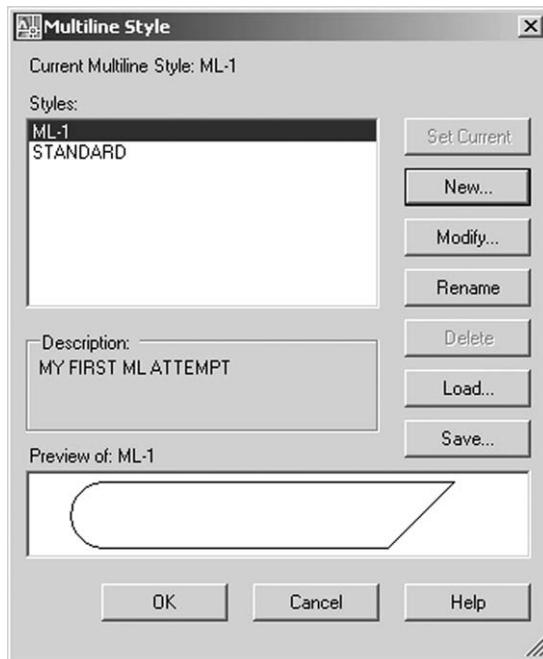

Figure 27.2 The Multiline Style dialogue box for ML-1.
b) pick Set Current – Figure 27.2